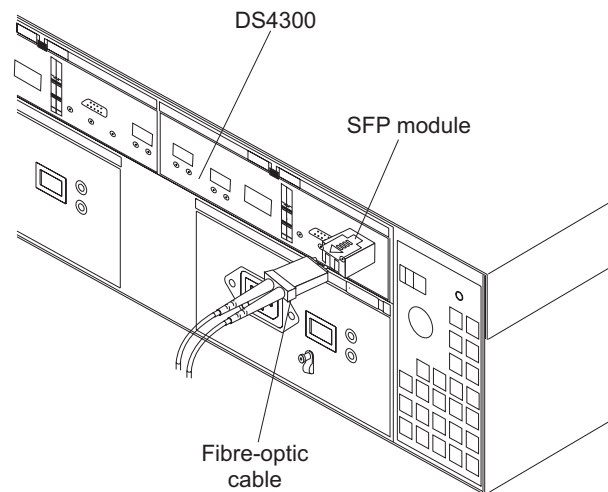

Figure 37. Connecting cables to the installed SFP on a DS4300
2. Connect an LC-LC fiber-optic cable to the installed SFP, as shown in Figure 37, Figure 38 on page 56 and Figure 39 on page 56.